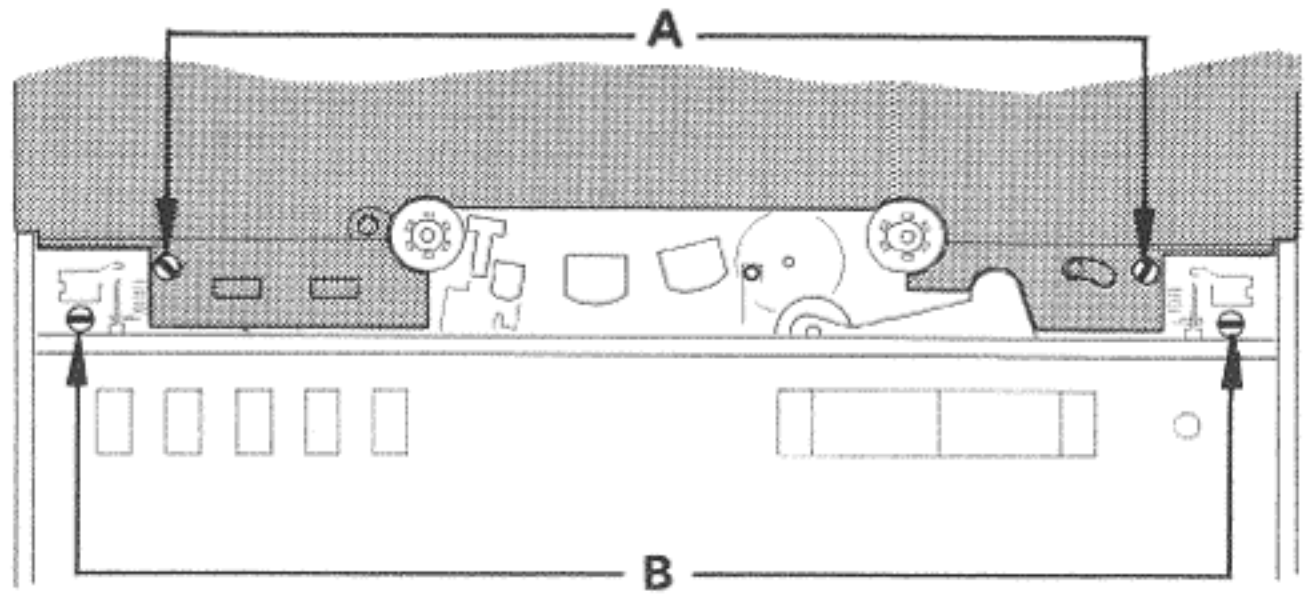

Fig. 3.2–4
- Undo screw A ( fig. 3.2 –4 ). Pull cover panel off ( Upper rim, 3 retainers ).
- Undo screws B ( fig. 3.2 –4 ). Pull out power switch knob as well as all rotary knobs and discs. Save retaining ring of power switch.